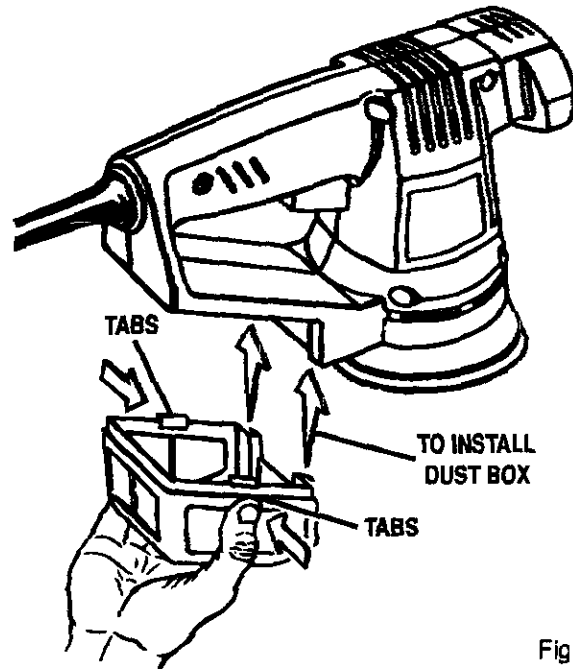

Fig. 8
See Figure 8.
- Slide dust box on sander as shown in figure 8. You will feel a soft click as the tab snaps into place.